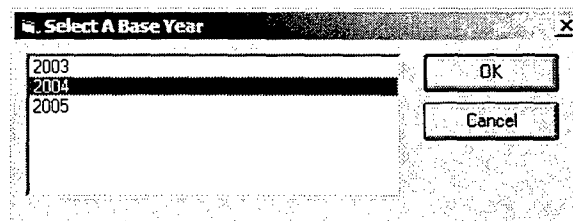

Figure 17. Select Base Year for ACOL Calculation
3. Select a base year for the ACOL calculation (Figure 17). The model calculates a baseline ACOL value for every skill and YOS. You must also select a monthly time period from the base year for the calculation.